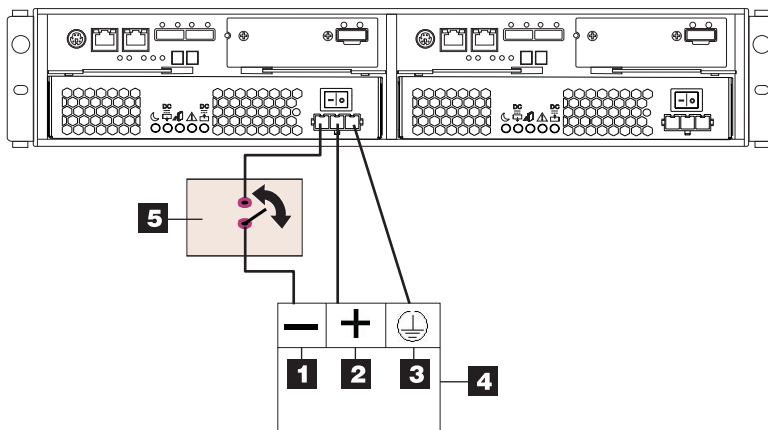

Figure 15. DC wiring from DS3500 to disconnect device and dc power source
- d. Complete the wiring from the disconnect device to the terminal marked -48V of the Reliably grounded safety extra low voltage (SELV) dc power source. Connect the POS RTN wire (blue) and the ground wire (green/yellow) of the dc power cable to the terminals marked POS RTN and GND on the dc power source, as shown in Figure 15.